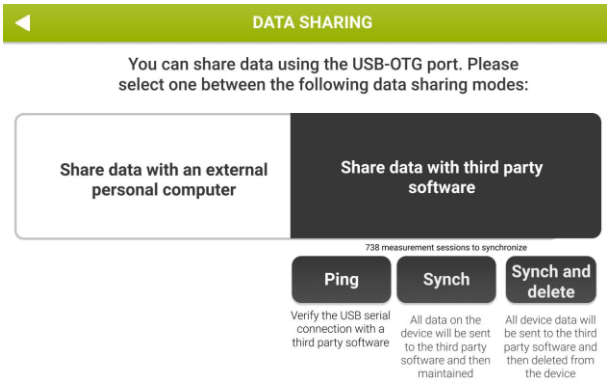

Figure 21 - Options available for sharing data with 3rd party software
3. After reboot, go to the same screen (Admin – Data Sharing – Data Sharing via USB-OTG); three more buttons are now displayed: *Ping*, *Sync* and *Sync and Delete* (Figure 21)